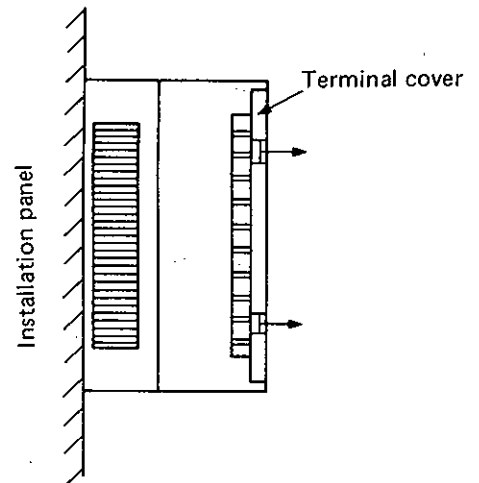

Fig. 2
- (1) Remove the terminal cover. To remove the terminal cover, pull the recessed portions on the left side toward you as shown in Fig. 2.